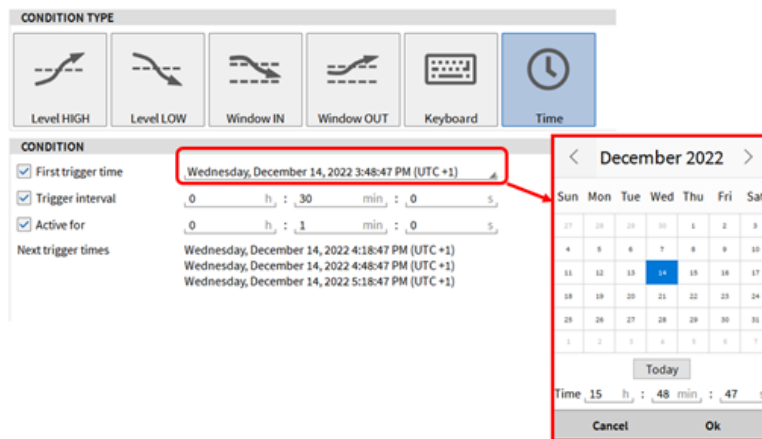
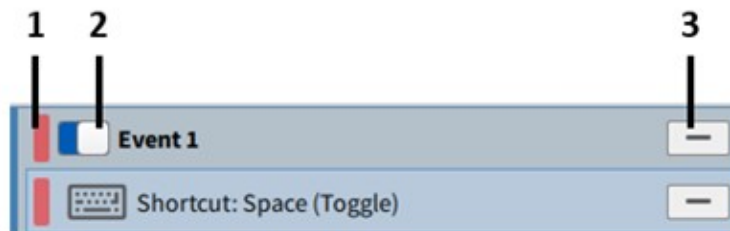

Fig. 9.11: Trigger on *Time* Event
Fig. 9.12: Trigger Menu - Additional information
- Time Event: The event is activated in the dependency of a time condition. In the example in Fig. 9.11, the event is activated every 30 minutes for a duration of 1 minute, starting at 15:48:47 on Wednesday 14th of December 2022. If the *Active for* option is not enabled, the Event will be active for one Sample interval, i.e. for 1 ms if the sample Rate is 1 kHz. The red indicator (see ① in Fig. 9.12) won't highlight if the *Active for* option is not enabled.
- The red indicator shows if the respective event is active or not (see ① in Fig. 9.12)
- The blue switch deactivates the event permanently (see ② in Fig. 9.12)
- The – deletes the event (see ③ in Fig. 9.12)